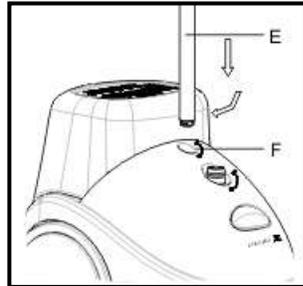

Fig. 3
3. Once you have assembled the garment rod, insert the bottom section of the rod (marked E) into the adapter hole in the upper housing of the unit (marked F) and turn 90° until it is locked in place. (See fig. 3)